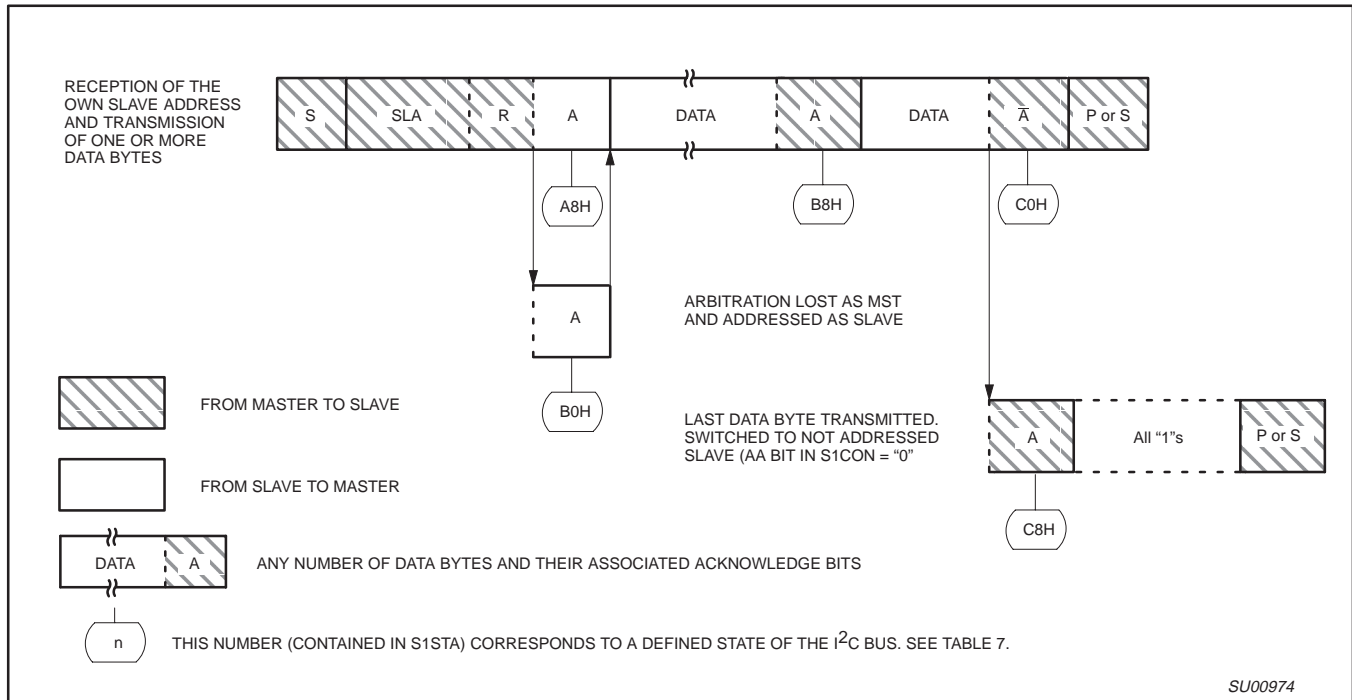

Figure 11. Format and States of the Slave Transmitter mode
In the Slave Transmitter mode, a number of data bytes are transmitted to a master receiver (see Figure 11). Data transfer is initialized as in the Slave Receiver mode. When S1ADR and S1CON have been initialized, SIO1 waits until it is addressed by its own slave address followed by the data direction bit which must be "1" (R) for SIO1 to operate in the Slave Transmitter mode. After its own slave address and the R bit have been received, the serial interrupt flag (SI) is set and a valid status code can be read from S1STA. This status code is used to vector to an interrupt service routine, and the appropriate action to be taken for each of these status codes is detailed in Table 7. The Slave Transmitter mode may also be entered if arbitration is lost while SIO1 is in the Master mode (see state B0H).